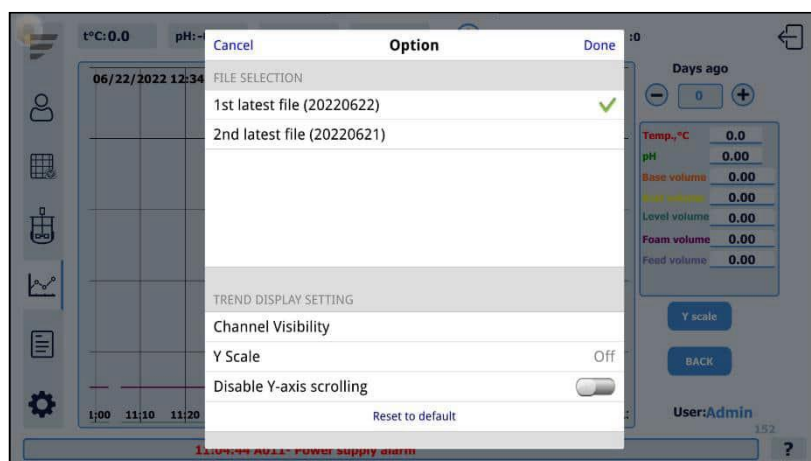
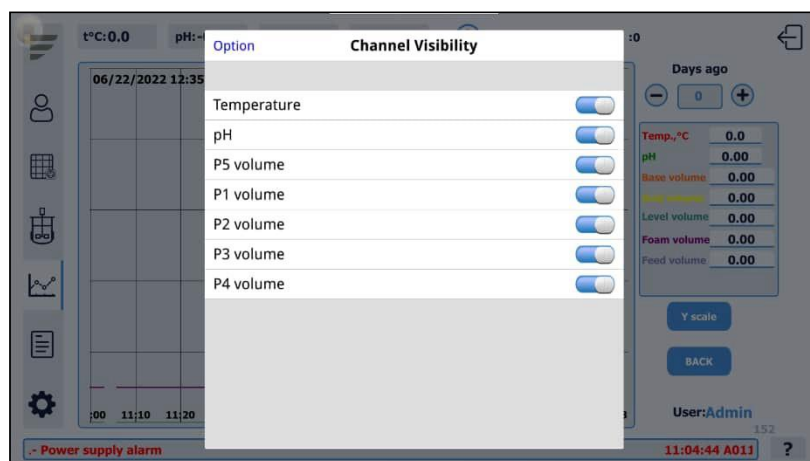
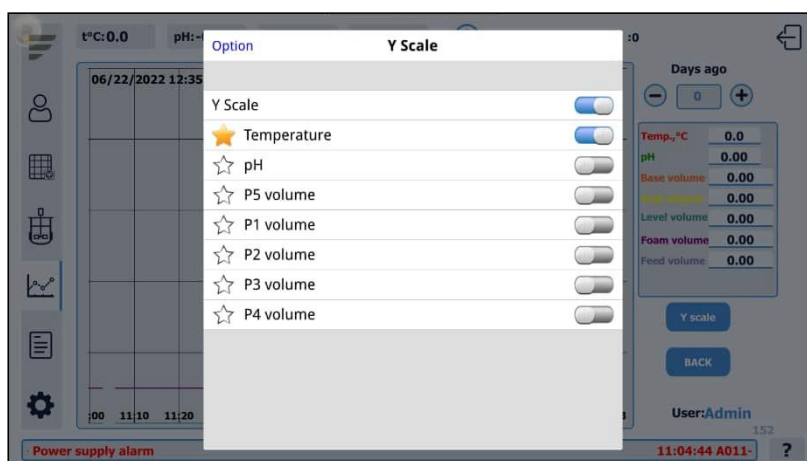

Figure 16.3. Trend configuration menu
Figure 16.4. Trend visibility settings
Figure 16.5. Trend Y axis visibility settings
- Change the visibility of each parameter (see Figure 16.4) accessed by pressing the cog button on the Trend field (see Figure 16.3).
Change the visibility of the Y axis for each individual parameter (see Figure 16.5) accessed by pressing the cog button on the Trend field (see Figure 16.3).